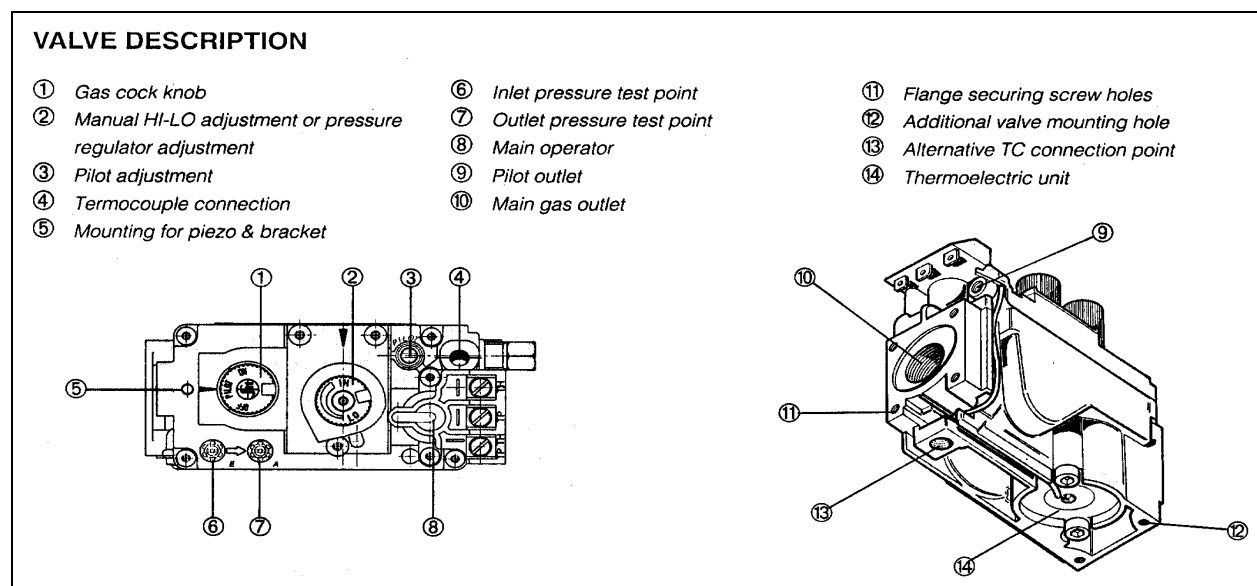

Figure 13
Once connected to the gas supply the gas inlet pressure and manifold gas pressure must be tested. The supply line must include a manual shut-off valve and union so that the unit can be disconnected for servicing. The gas control valve has built in pressure taps for test gauge connections (#'s 6 & 7 in Figure 13). The supply line pressure must be tested to ensure it meets the minimum pressure for the type of fuel in use (NG or LP).
Pressure Measurements: To measure the pressure of gas directly upstream of the supply connection, connect a manometer to the gas inlet tap(6) and manifold pressure tap (7) in Figure 13